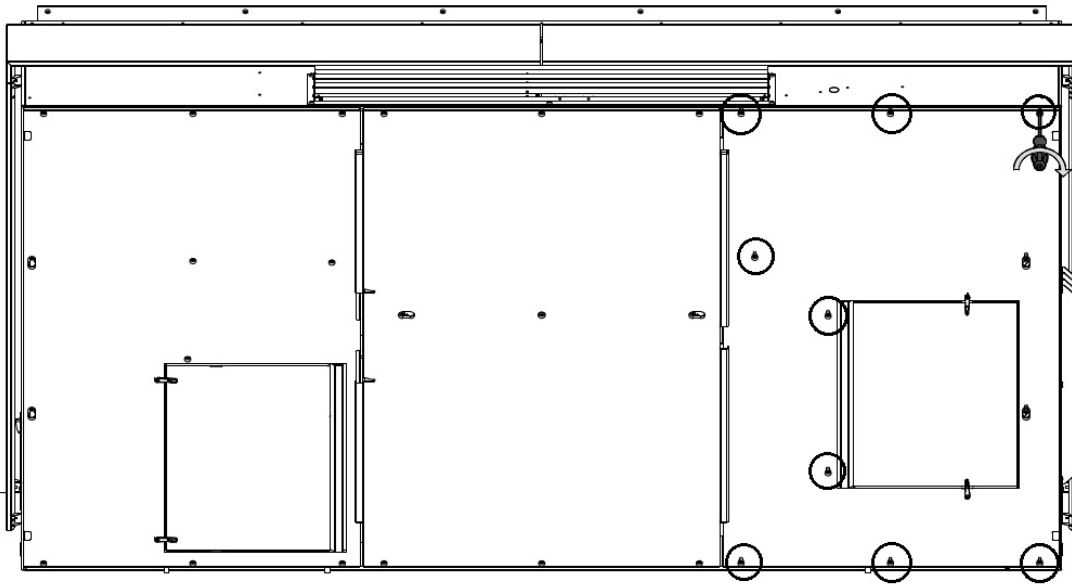
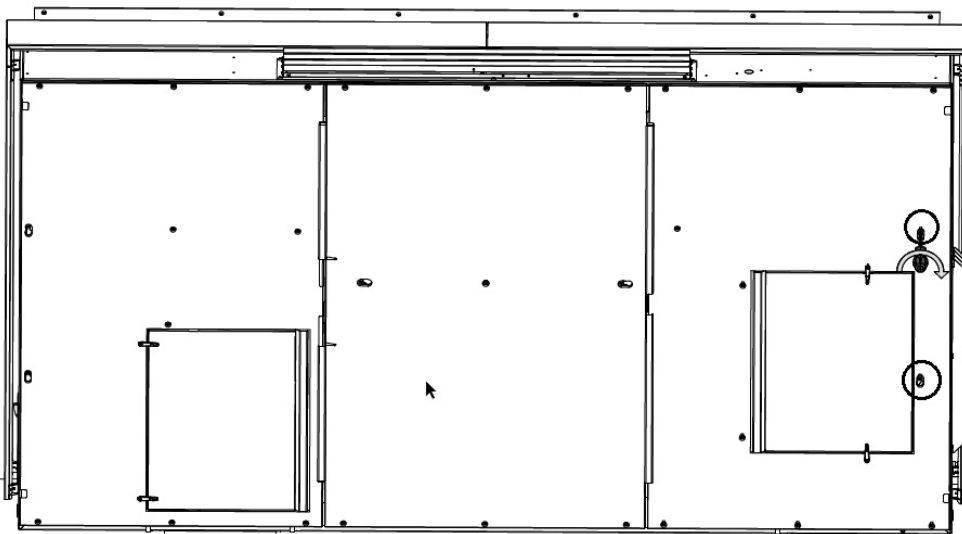

Figure 49: Attachment points for the right-hand steel plate
Figure 50: Tighten the bolts
13. Screw the steel plate into the unit frame using nine short bolts, see Figure 49. Once this is done, proceed to tighten the bolts in the keyhole, see Figure 50.